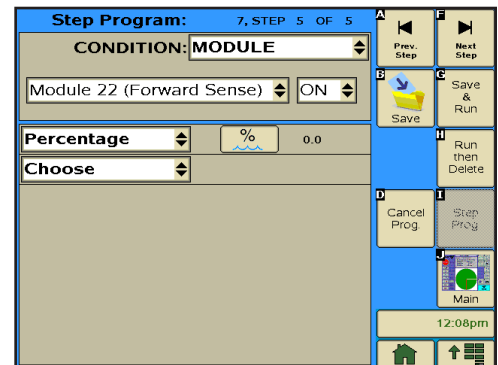

Figure 141-2
17. Program the module condition for this step. Refer to Figure 141-2.